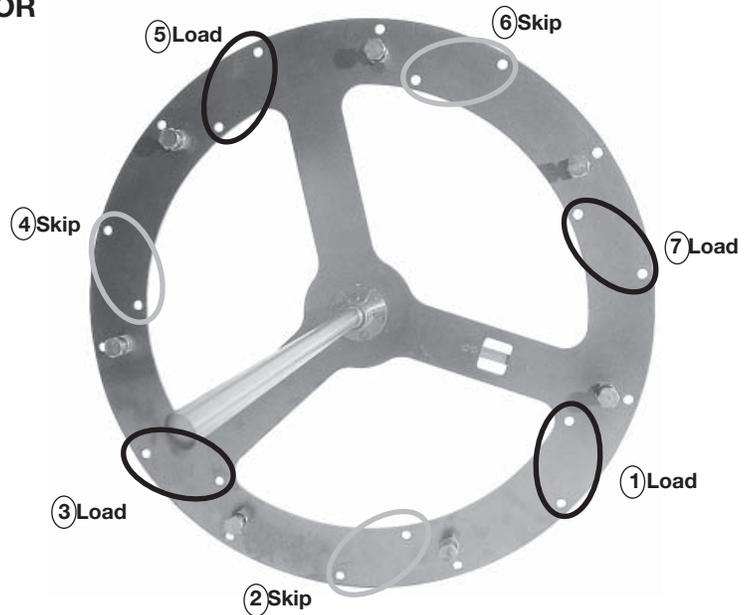

Figure 17
- Advance the Rotor as needed using the Rotate Knob, load accessory into position 1, skip position 2, load position 3, etc. (Figure 17).